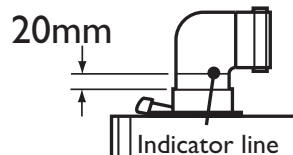

Fig. 38
2. Locate the flue elbow on the adaptor at the top of the boiler. Set the elbow to the required orientation (Fig. 37). The elbow is fully engaged when there is a distance of 20mm from the adaptor to the indicator line (Fig. 38).